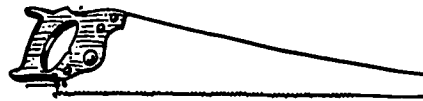

Fig 1-45. Carpenter's handsaw.
- **Carpenter's handsaw:** The crosscut handsaw has proven to be a good plastic cutting tool. Figure 1-45 shows a carpenter's handsaw. The carpenter's crosscut handsaw is most suitable for use on larger diameter rigid plastic pipe.